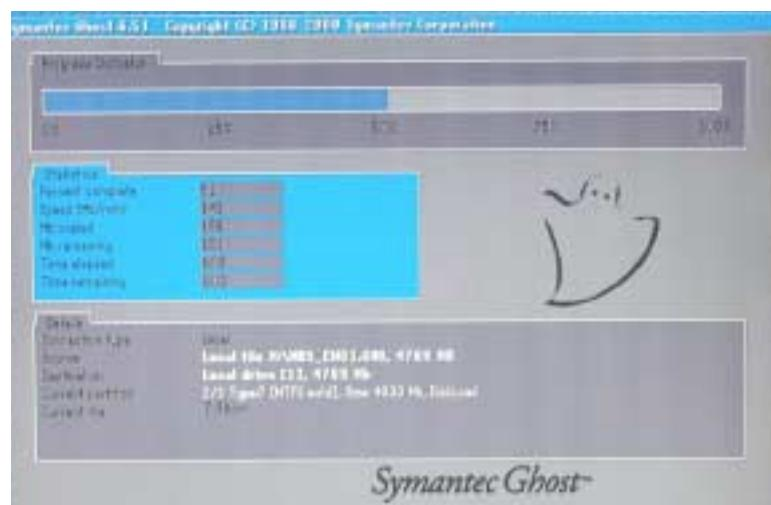

Figure 15-22 Image Transfer Window
- At, click on *OK* button to open “Image Transfer” window (see Figure 15-22).